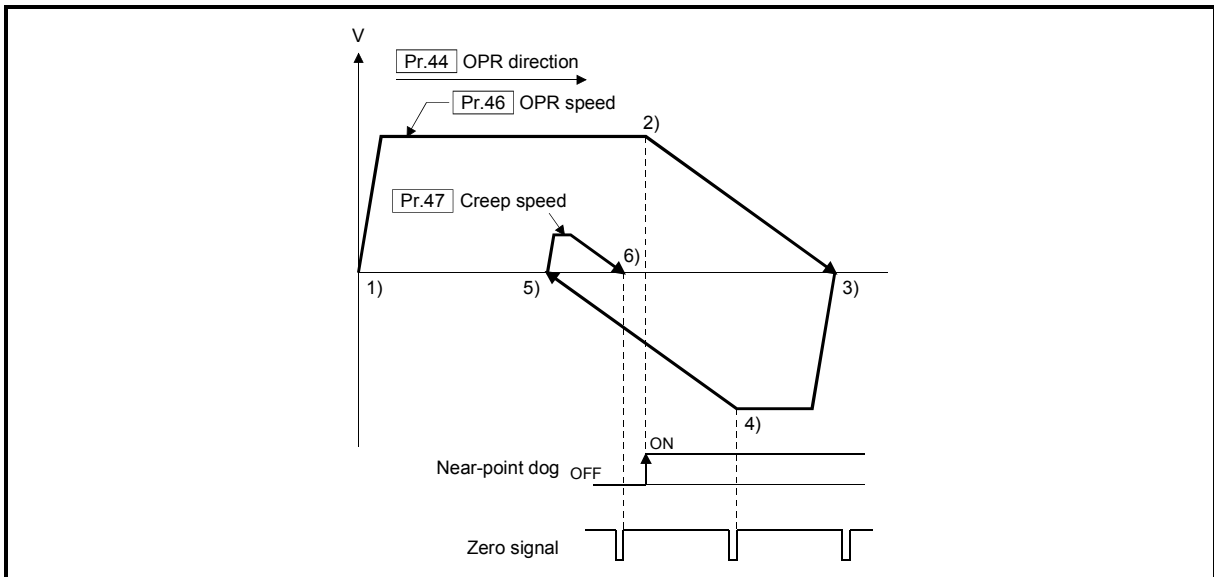

Fig. 8.12 Operation when the zero signal is detected again during deceleration with detection of zero signal
- (3) When the stop signal stops the machine OPR, carry out the machine OPR again. When restart command is turned ON after the stop signal stops the OPR, the error "OPR restart not possible (error code: 209)" will occur.
- (4) The OPR retry will not be performed regardless of setting set in "[Pr.48] OPR retry" in the scale origin signal detection method. When a hardware limit switch is detected during machine OPR, the error "Hardware stroke limit (+) (error code: 104)" or "Hardware stroke limit (-) (error code: 105)" will occur.
- (5) Position the near-point dog forward to overlaps with the hardware limit switch in direction of OPR. When the near-point dog is in the opposite direction against of OPR from the machine OPR start position, the error "Hardware stroke limit (+) (error code: 104)" or "Hardware stroke limit (-) (error code: 105)" will occur.
- (6) When the zero signal is detected again during deceleration (4) of Fig. 8.12) with detection of zero signal, the operation stops at the zero signal detected lastly to complete the OPR.